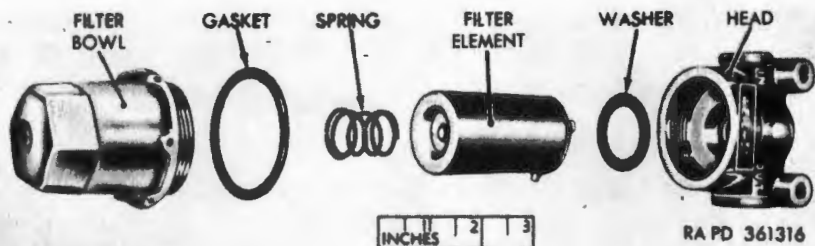
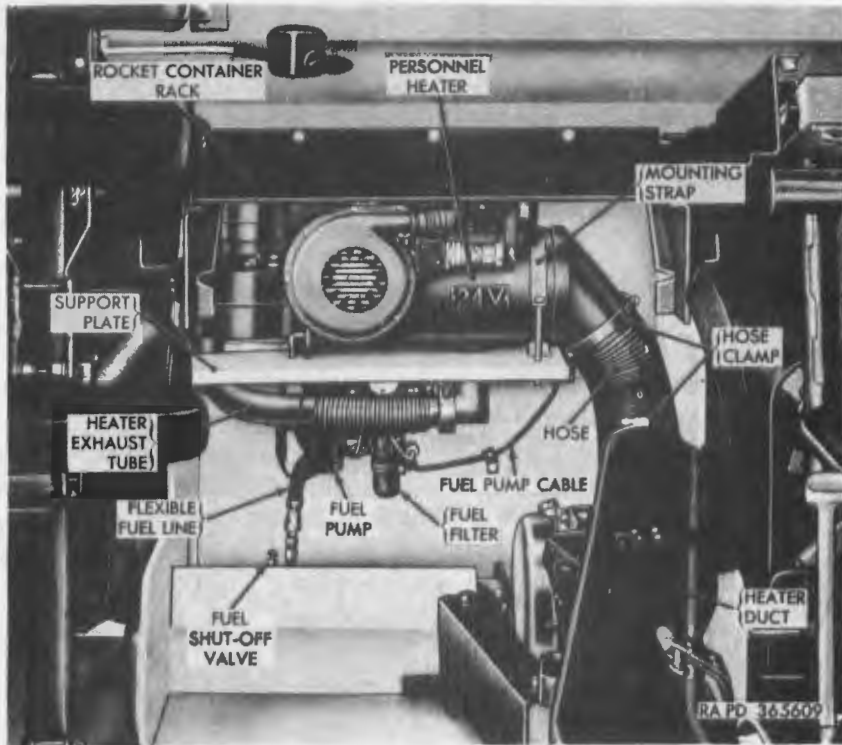

Figure 255. Personal heater fuel filter—exploded view.
Figure 256. Personal heater—installed.
b. Service. The personnel heater fuel filter (fig. 255) must be cleaned and drained frequently to prevent ice formation during cold weather operation. The fuel filter (fig. 256) is mounted next to the personnel heater fuel pump below the personnel heater mounting bracket at the rear of the driving compartment. To service, unscrew bowl and remove gasket, spring, filter element, and washer from head (fig. 255). Wash parts with dry-cleaning solvent or mineral spirits paint thinner and allow to dry. Do not use cloth to dry these parts as fine pieces of lint will clog the personnel heater fuel system. Place gasket on flange at threaded end of bowl. Place spring, filter element, and washer in the bowl. Position bowl against head and engage the threads by hand. Tighten bowl to 40 to 50 pound-inches torque with a wrench applied to hexagonal lower end.
c. Heater (fig. 256).
- (1) *Removal.* Disconnect wiring harness connector from personnel heater. Disconnect fuel line from top of heater. Loosen heater hose clamp and remove hose. Remove two hexhead bolts which secure heater mounting clamp on the right end of the personnel heater and remove clamp. Remove one hex-head bolt from front end of mounting strap on left end of heater and bend strap back and away from the heater. Lift and disengage heater from exhaust tube which is secured to the heater support plate. Do not lose or damage the O-ring packing and washer. Remove the personnel heater.
- (2) *Installation.* Place the O-ring packing over the exhaust outlet of the heater. Place the washer in the flared end of the exhaust tube elbow on the heater support plate. Position the heater in the mounting brackets on the support plate and enter the exhaust outlet into the exhaust tube elbow. Make sure the O-ring packing and washer are in place. Install the heater mounting clamp and secure with two $\frac{5}{16}$ x $6\frac{1}{2}$ hex-head bolts on the right end of heater and tighten. Bend mounting strap into position over left end of heater and secure with one $\frac{5}{16}$ x 4 hex-head bolt. Connect fuel line to top of heater. Connect wiring harness connector to personnel heater and tighten coupling nut. Install hose on heater and tighten hose clamp.
d. Heater duct. (fig. 256)
- (1) *Removal.* Remove eight hex-head bolts and lockwashers which secure the heater duct to the hull. Loosen hose clamp securing hose to duct and slide duct forward out of the vehicle.
- (2) *Installation.* Position heater duct in hull with rear end entered into heater hose. Secure heater duct to hull floor with five $\frac{3}{8}$ x 1 hex-head bolts and $\frac{3}{8}$ -inch lockwashers.
263. Personnel Heater Accessories and Fuel Lines (fig. 256)